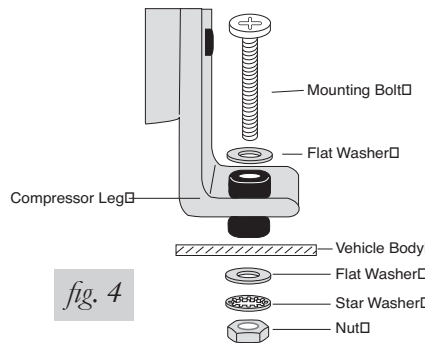

fig. 4
3. Center punch and drill four (4) $1\frac{3}{64}$ " holes.
4. Use screws provided to attach the compressor (Figs. 4 and 5).